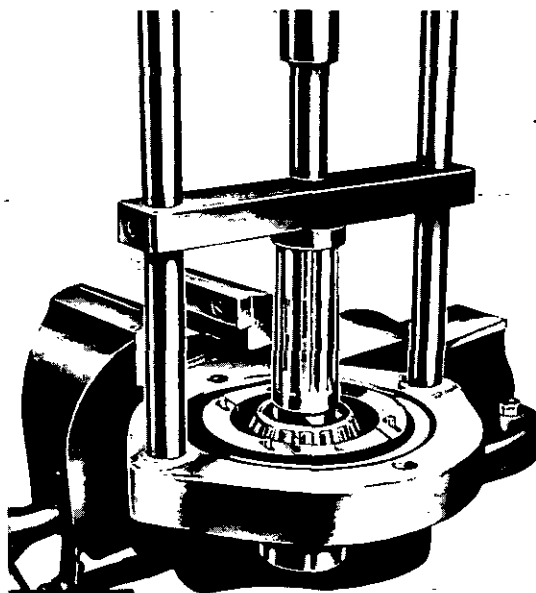
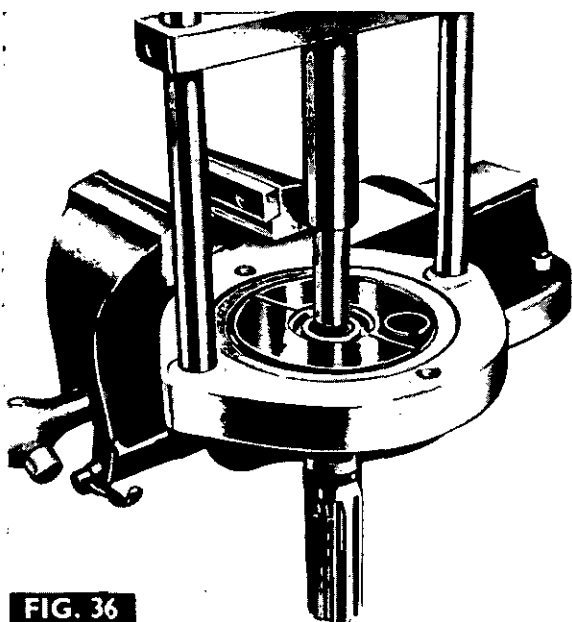

FIG. 35
FIG. 36
3. Fig. 35. Fit the pinion to the MF 200 hand press with adapters MF 200-23 and MF 200-25, then press off the bearing (61).
4. Remove the snap ring securing the pilot bearing (57) to the pinion.
5. Fig. 36. Fit the pinion to the MF 200 Hand press, using adapter MF 200-23, then press off the pilot bearing.